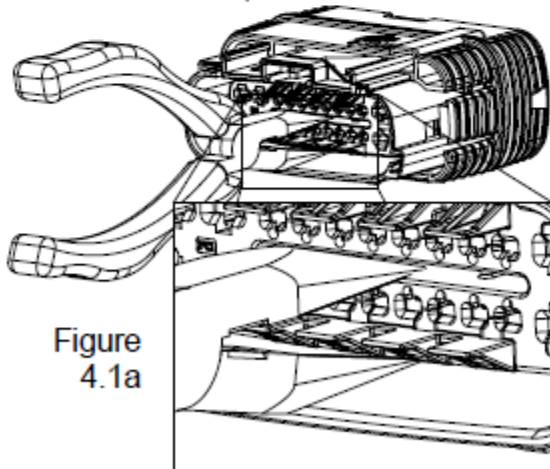

Figure 4.1a
- Gently pull the TPA into "Pre-Lock" position by gripping the TPA as shown in figure 4.1a. To avoid damaging the TPA, use care to not pull the TPA out of the connector!